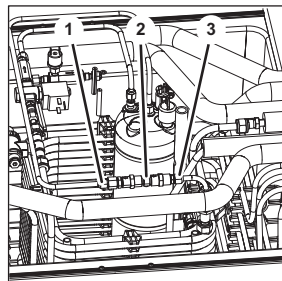

Figure 102
1. Release the couplings (Figure 102/1 and 3) on the non-return valve (Figure 102/2).
2. Lift the non-return valve (Figure 102/2) out of the unit.
5. Attach the non-return valve (Figure 102/2) using the couplings (Figure 102/1 and 3).